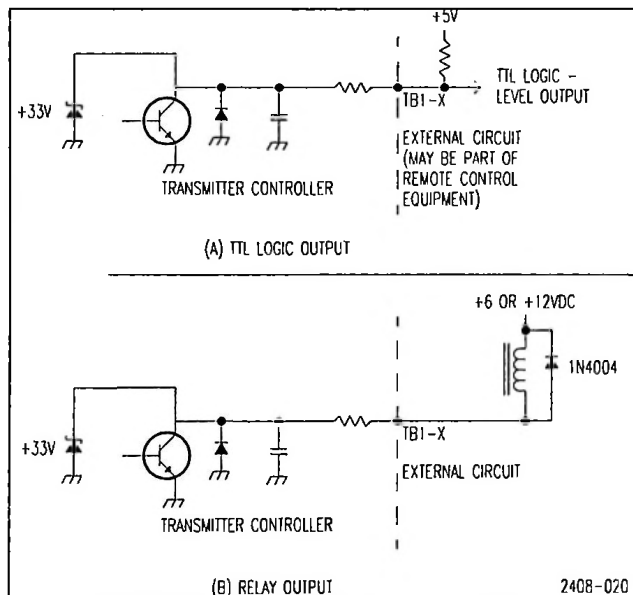

Figure 2-11 TTL Logic and Relay Status Outputs
The status output lines on TB1 are transistor type - open collector. Figure 2-11(A) illustrates how to interface TB1 outputs with TTL logic circuits. Figure 2-11(B) illustrates how to interface TB1 with an external relay.